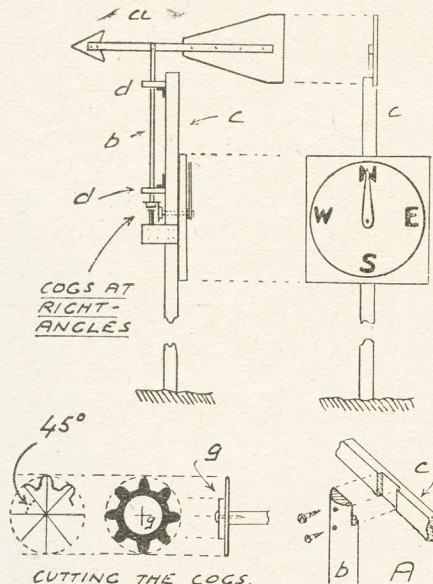

Fig. 1—Details of the main pillar
The bar (a) is 1ft. 6in. long, ⅜in. thick and ¾in. deep. This is deeper than usual as it has to fit firmly to the axle, as (A) Fig. 1. At one end is the arrow-head and the other the vane 10in. long and 6in. deep at the back. This item can be made of stiff card as long as it is well painted over to make it weather-proof. A better job can be effected by using light tin or aluminium taken from a discarded cooking utensil.